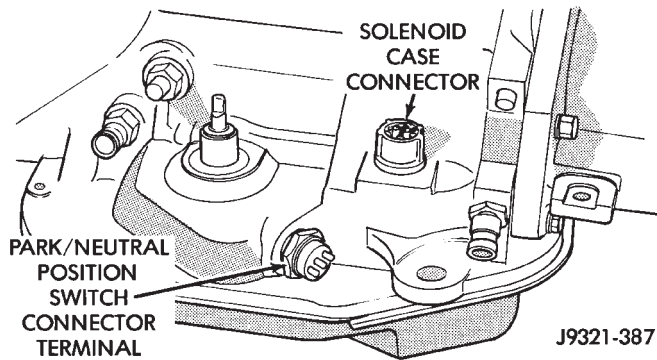

Fig. 26 Transmission Case Connector
- (1) Shift transmission into NEUTRAL.
- (2) Raise vehicle.
- (3) Remove gearshift and throttle levers from shaft of valve body manual lever.
- (4) Disconnect wires at solenoid case connector (Fig. 26).
- (5) Position drain pan under transmission oil pan.
- (6) Remove transmission oil pan and gasket.
- (7) Remove fluid filter from valve body.
- (8) Remove bolts attaching valve body to transmission case.
- (9) Lower valve body enough to remove accumulator piston and springs.
- (10) Work manual lever shaft and electrical connector out of transmission case.